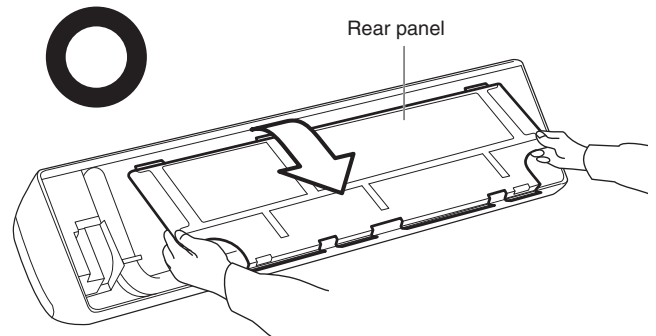

Fig. 3-73
- (3) Remove the rear panel by grasping the sections shown in Fig. 3-73 and pulling it in the direction shown by the arrow.